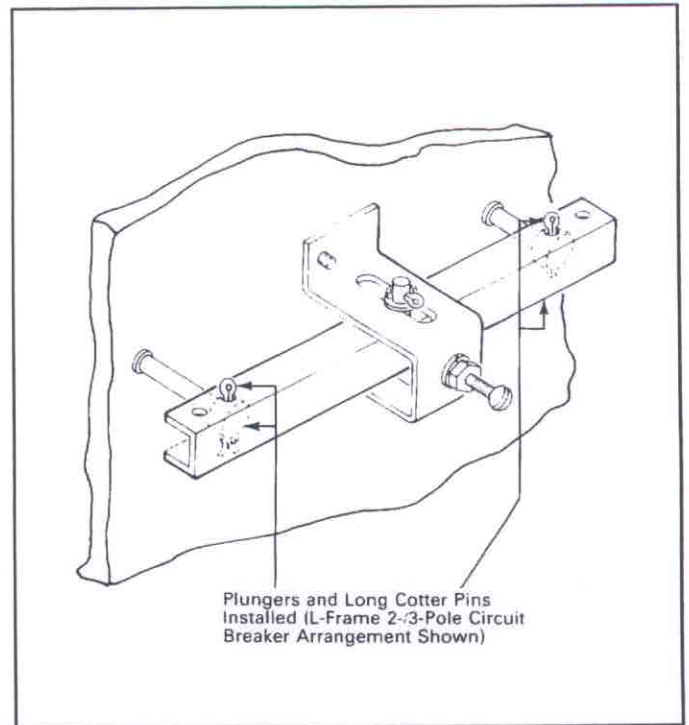

Fig 2-7 Walking Beam Final Assembly
- 2-8. With both the circuit breakers in the OFF position, attach the plungers to the steel beam using the longer cotter pins supplied (Fig. 2-7). Use outer holes in steel beam for 4-pole application and inner holes for 2- and 3-pole applications.
- 3-2. Screw 2-inch pan-head screw together with nut and lockwasher into threaded hole in top of the mounting bracket (Fig. 2-7).
- 3-4. Lock the pan-head screw in position by tightening the nut against the mounting bracket. Do not allow the screw to turn while tightening the nut (Fig. 2-7).